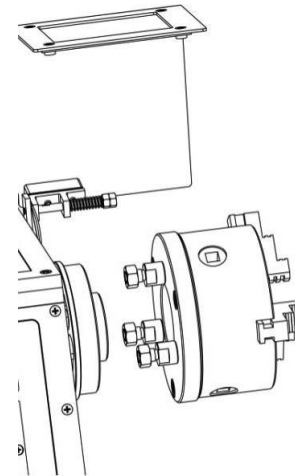

Figure 9 Removing chuck from spindle
5. Remove the chuck/faceplate from the spindle by pulling it out (Figure 9).